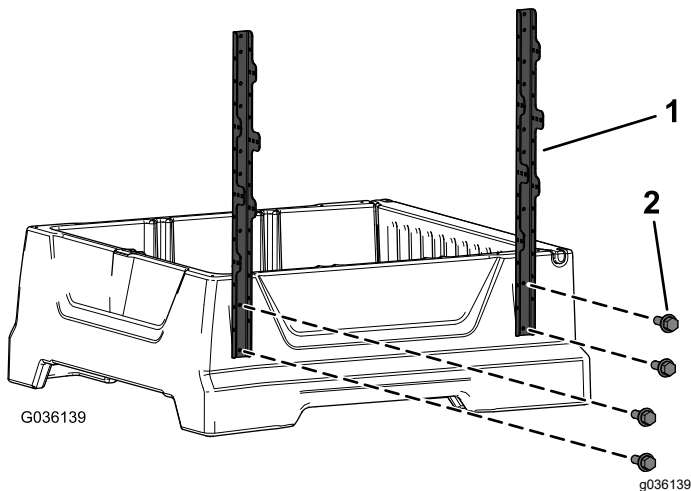

Figure 2
1. Loosely install the 2 side upright frame brackets to the outside of the cargo bed with 4 hex-head screws (1/4 x 3/4 inch) as shown in Figure 2.